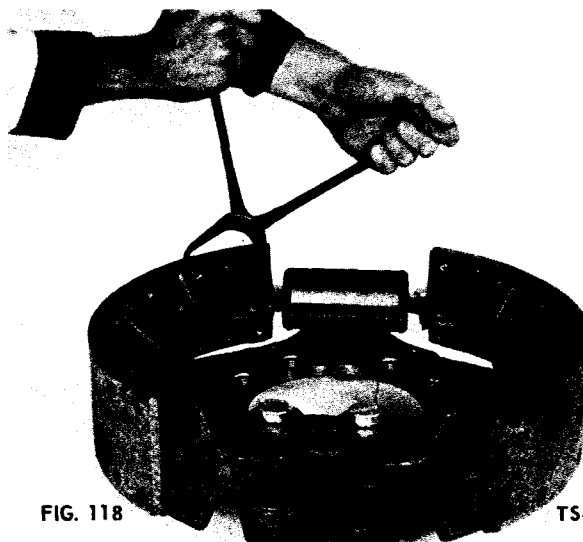

FIG. 118
6. Install brake shoe return spring with brake spring pliers. Make sure push rods are properly engaged in pistons and in brake shoe slots (Fig. 118).